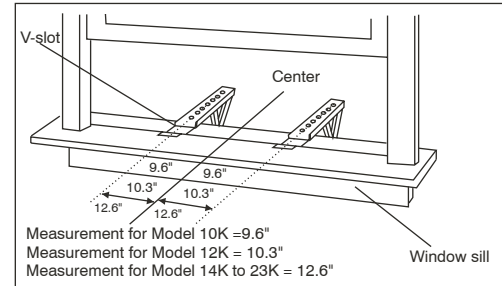

Fig. 11 – Bracket Mounting
- B. Measure the inside window sill width and find the center as shown in (Fig. 11). Align the V-slot in each bracket on these marks and mount the brackets to the sill using 3/4" screws provided. Brackets should be perpendicular to the inside window sill. See (Fig. 11).